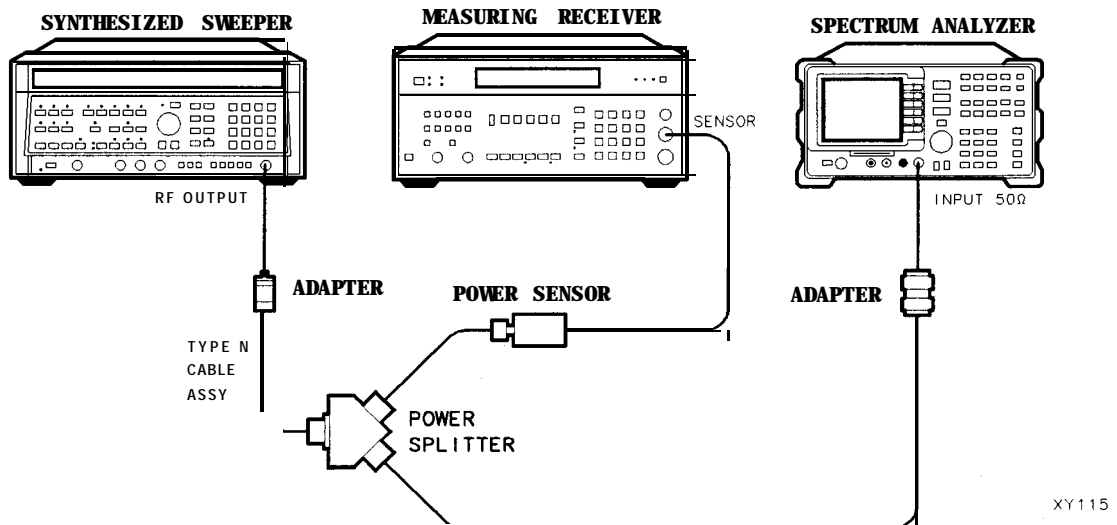

Figure 1-14. Frequency Response Test Setup, ≥ 50 MHz
2. Connect the equipment as shown in Figure 1-14.